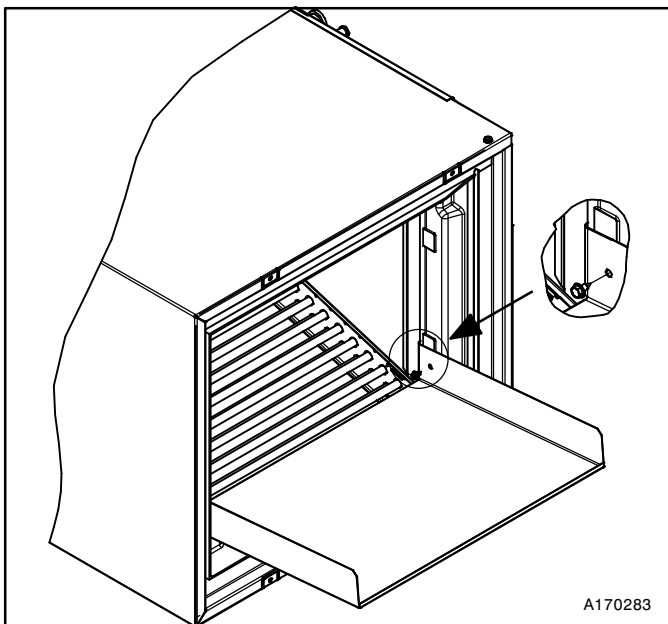

Figure 7 – Condensate Pan Extension Mounting Screws
7. Install included condensate pan extension and two corner screws as shown in **Figure 7**.